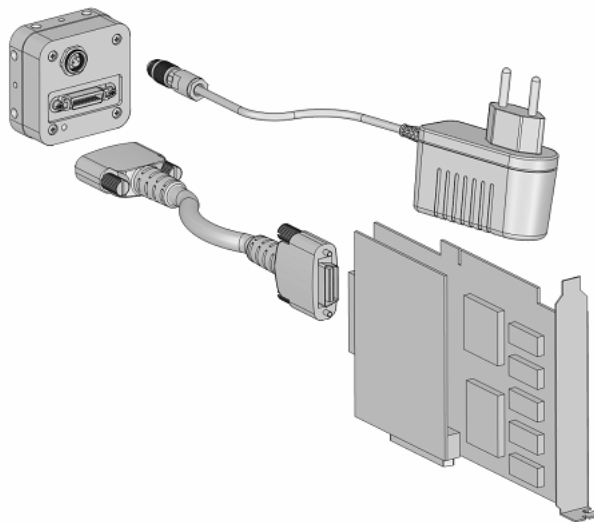

Figure 2.2: Camera with frame grabber, power supply and cable.
5. Connect the camera to the frame grabber with a suitable CameraLink cable (see Fig. 2.2). CameraLink cables can be purchased from Photonfocus directly ([www.photonfocus.com](http://www.photonfocus.com)). Please note that Photonfocus provides appropriate solutions for your advanced vision applications.
7. Connect the power supply to the camera (see Fig. 2.2).